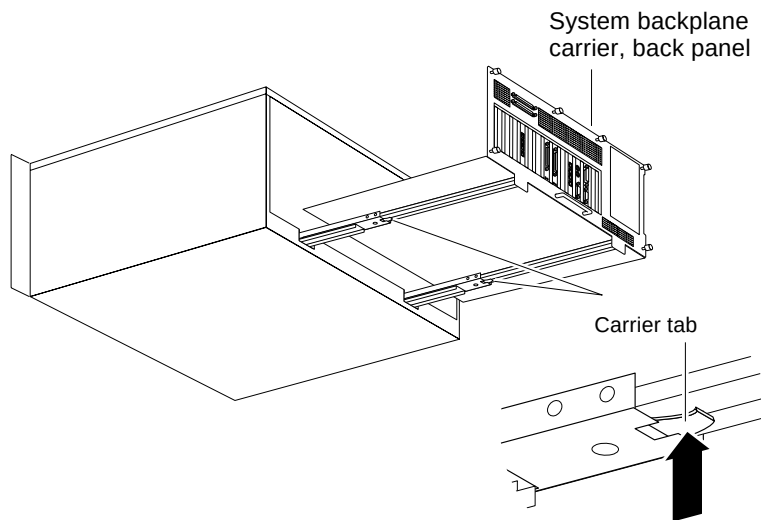

Figure B-4. Removing the system backplane carrier
2. Press inward on the carrier tabs under each cabinet slide rail while pulling the system backplane carrier out of the cabinet (see Figure B-4).
If the system backplane carrier is locked in position, press inward on the carrier tabs under each carrier slide rail (see Figure B-4 on page B-6) while pushing the system backplane carrier into the cabinet.